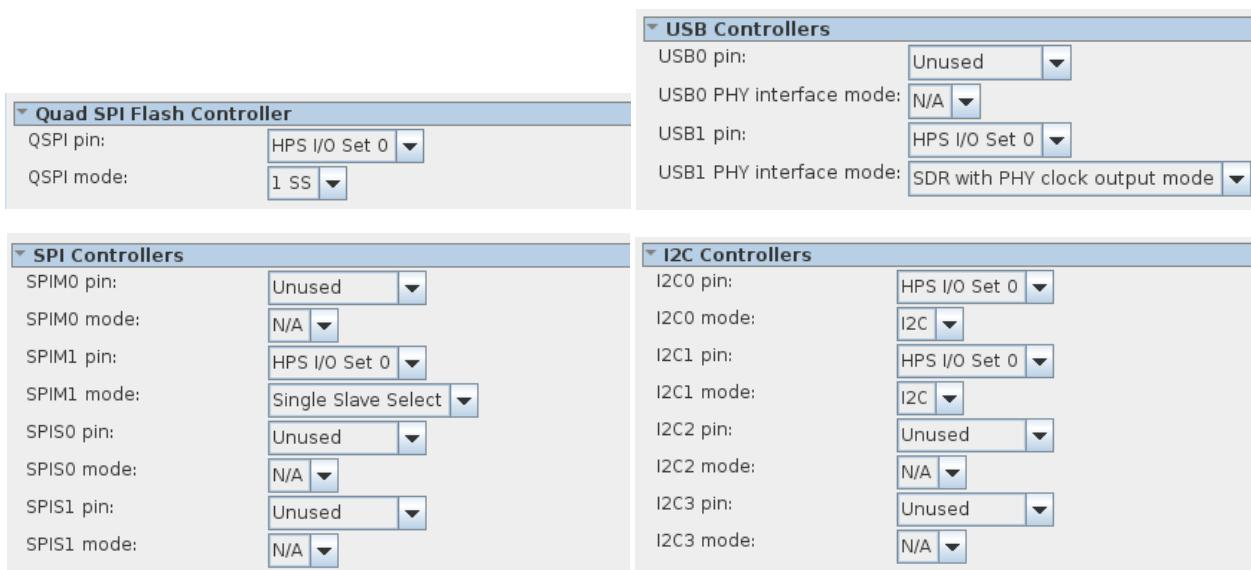

Figure 9-12. Quad SPI Flash, USB, SPI, and I2C peripheral pin configurations
- Configure the Quad SPI Flash controller, USB controllers, SPI controllers, and the I2C controllers as shown in Figure 9-12.